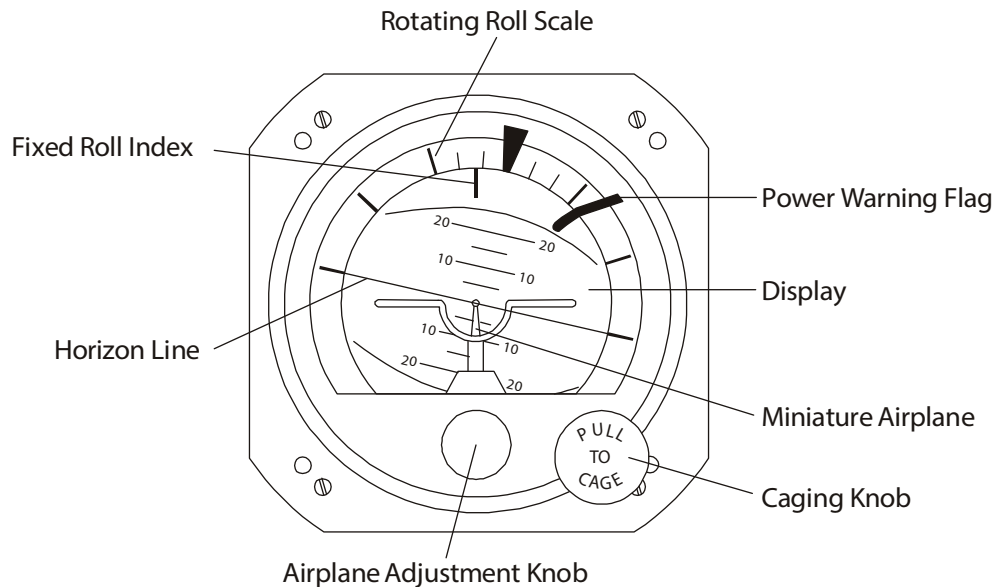

Figure 2 : L-3 Communications AIM 1100 Attitude Gyro
Figure 2 shows the L-3 Communications AIM 1100 attitude gyro.
- Airplane adjustment knob. Only the AIM 1100-28L(0F) DIA has this knob, see Figure 2. Turning the knob moves the miniature airplane up and down a minimum of $\pm 4^\circ$ relative to the middle position.